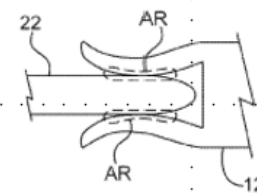

FIG. 2A
- Sensor (100) embedded in meter base (24) within 4 inches of Stabs (22)
- FIG 2A. Arc will occur when Contact Surface Area (22,12) Compromised
- Arc Detector (110): Tank Circuit (110) De-Tuned Resonant R,L,C Circuit*
- Arc Count = One Second Resolution ($f(\text{RC Time Constant})$ (150))
- Output (130) Logic High for One Second